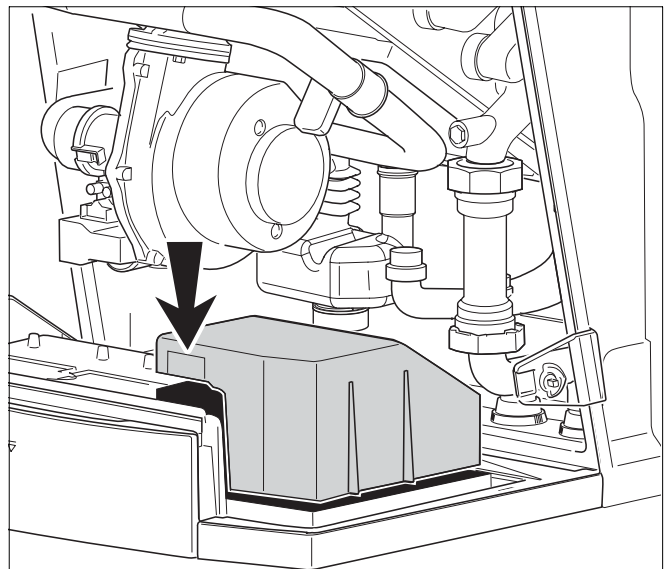

Fig. 90 Installing the cover of the connection box
- Fit the cover on the connection box (see fig. 90).